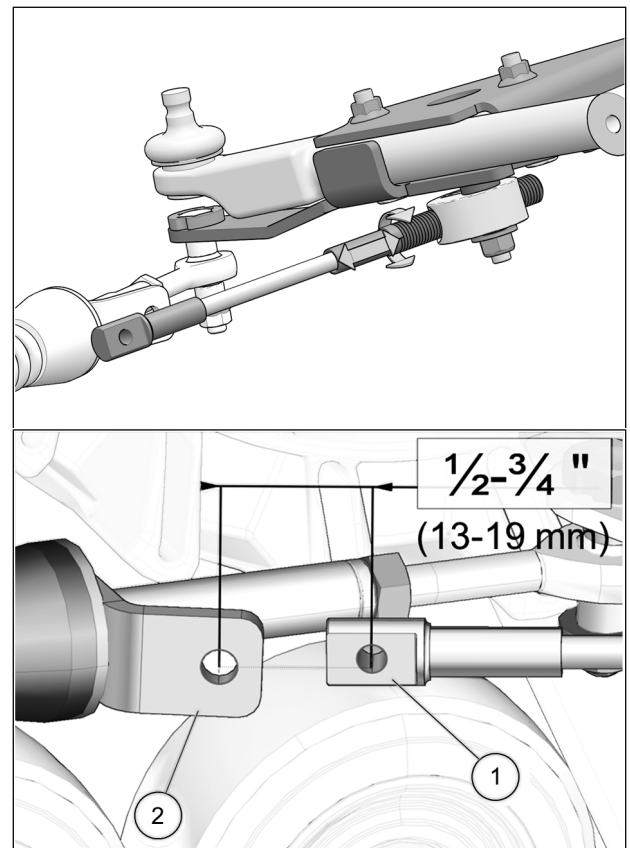

Fig. 19
12. Turn the vehicle's steering wheel to its maximum point of travel on the left. While maintaining pressure on the steering wheel, turn threaded rod to adjust length of cable so that the cable end hole (**1**) is located 13 to 19 mm [$\frac{1}{2}$ to $\frac{3}{4}$ in.] short of the mounting hole on the support plate (**2**). See Fig. 19